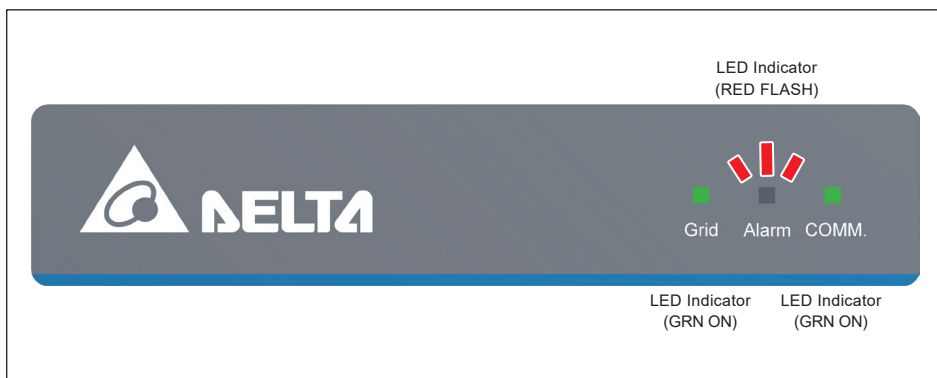

Figure 5-4: Display Indicating AC and DC SPD failure
- Determine which SPD unit is damaged. See **Figure 5-4**.